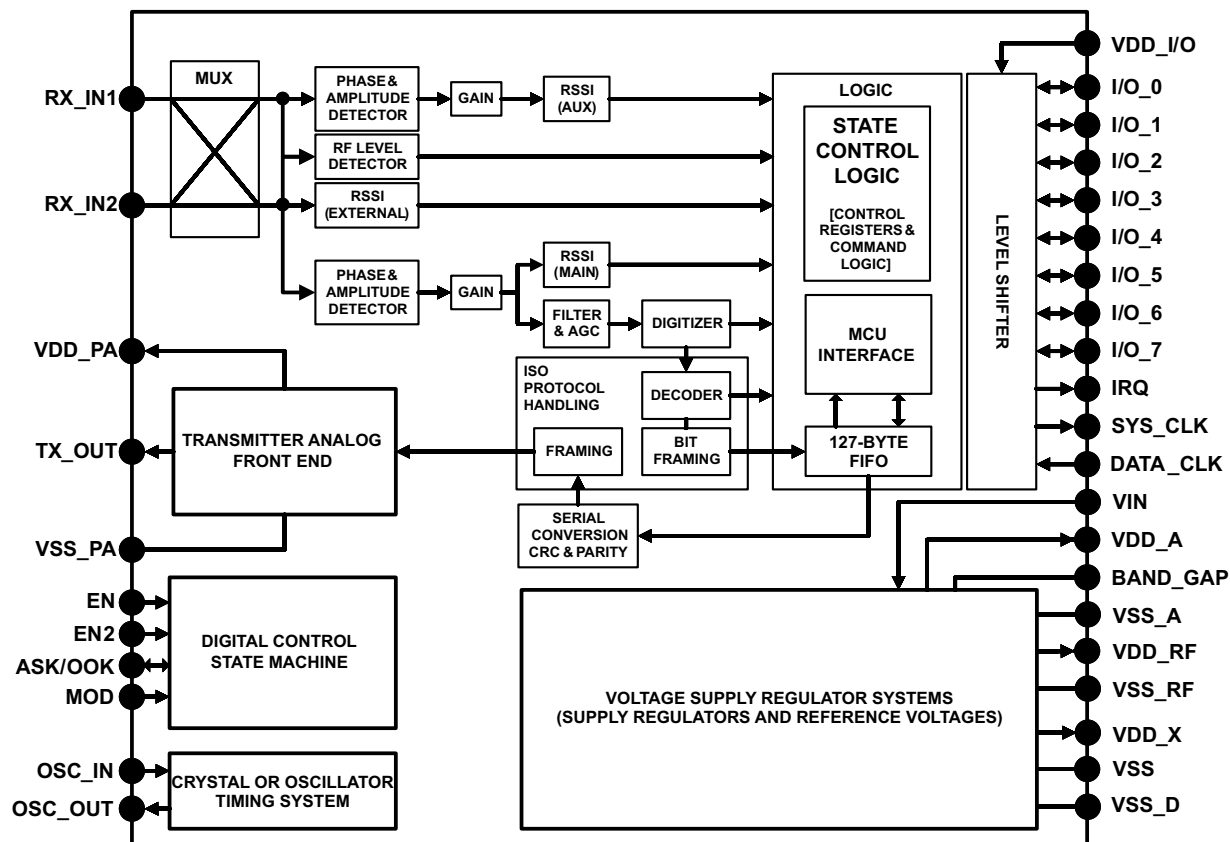

Figure 1-1. Block Diagram
Figure 1-1 shows the block diagram.
• Changed <a href="#">Figure 1-1</a> to show 127-byte FIFO .....	<a href="#">2</a>